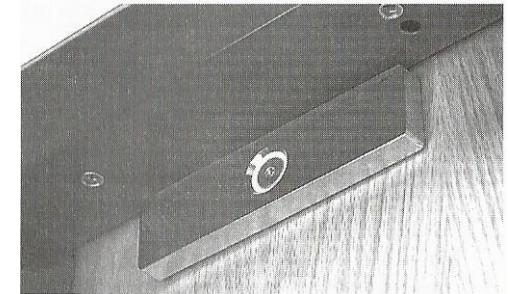

Figure 16. Installing the Strike Plate
8. INSTALL the strike by aligning it with the sex bolt and roll pin bushing and then tightening the center screw (see Figure 16, "Installing the Strike Plate").